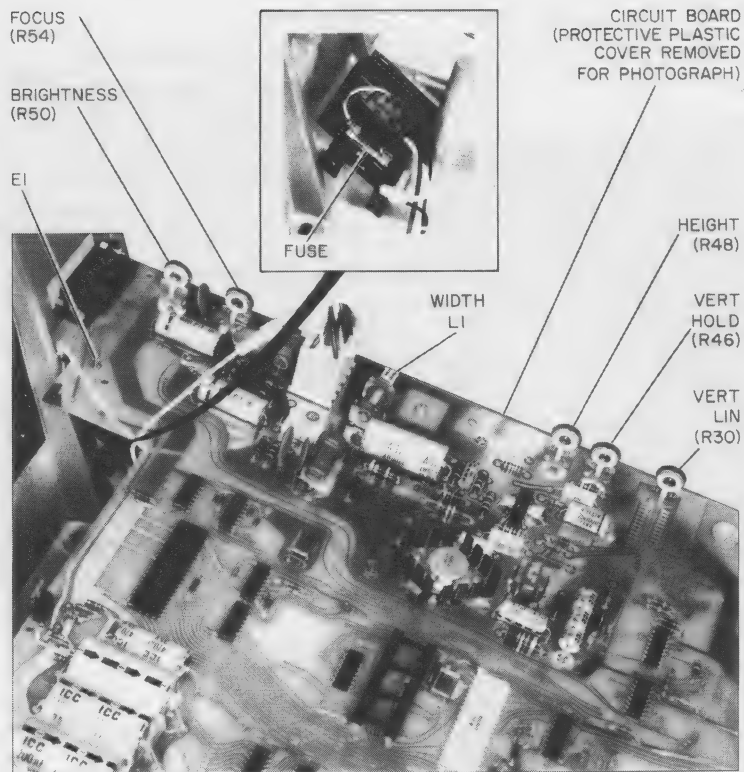

Figure 6-3. Location of Fuse and Adjustments
d. The fuse is located on a bracket assembly at the right rear of the base (figure 6-3). It may be removed by pulling up by hand, or with a fuse puller tool available in most automotive shops.
- b. Disconnect connector P2 at the left rear of the circuit board (figure 6-3). This is done by squeezing the sides of the connector to release the latch and pulling straight up.
- g. Connect the single green wire to terminal E1 (figure 6-3) by pressing the clip onto the terminal.